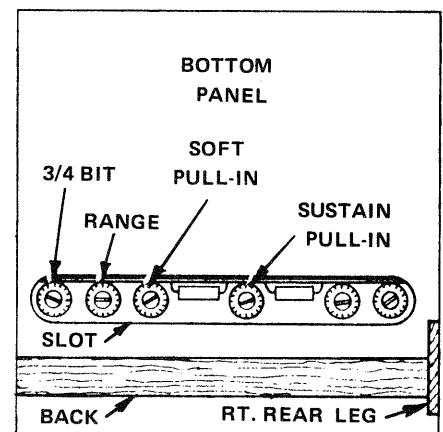

FIGURE 9-48 SOFT PULL-IN CONTROL LOCATION.
- F. Check to see that the SOFT Pull-in Control (See FIGURE 9-48) is set at maximum by turning it fully CLOCKWISE. THIS IS DONE TO ENSURE THAT THE SOLENOID IS OPERATING AT FULL POWER TO MAKE SURE IT WILL PUSH THE SOFT PEDAL. IT WILL BE ADJUSTED TO ITS PROPER LEVEL LATER IN THESE PROCEDURES). (See THE CAUTION below). Then Proceed to Point 'G'.